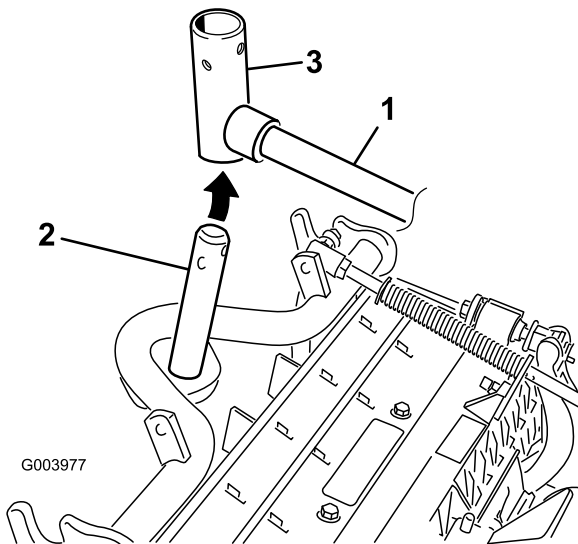

Figure 10
8. For the front cutting units, slide a cutting unit under the lift arm while inserting the carrier-frame shaft up into the lift-arm-pivot yoke (Figure 10).
- B. Insert the lift-arm yoke onto the carrier-frame shaft (Figure 10).